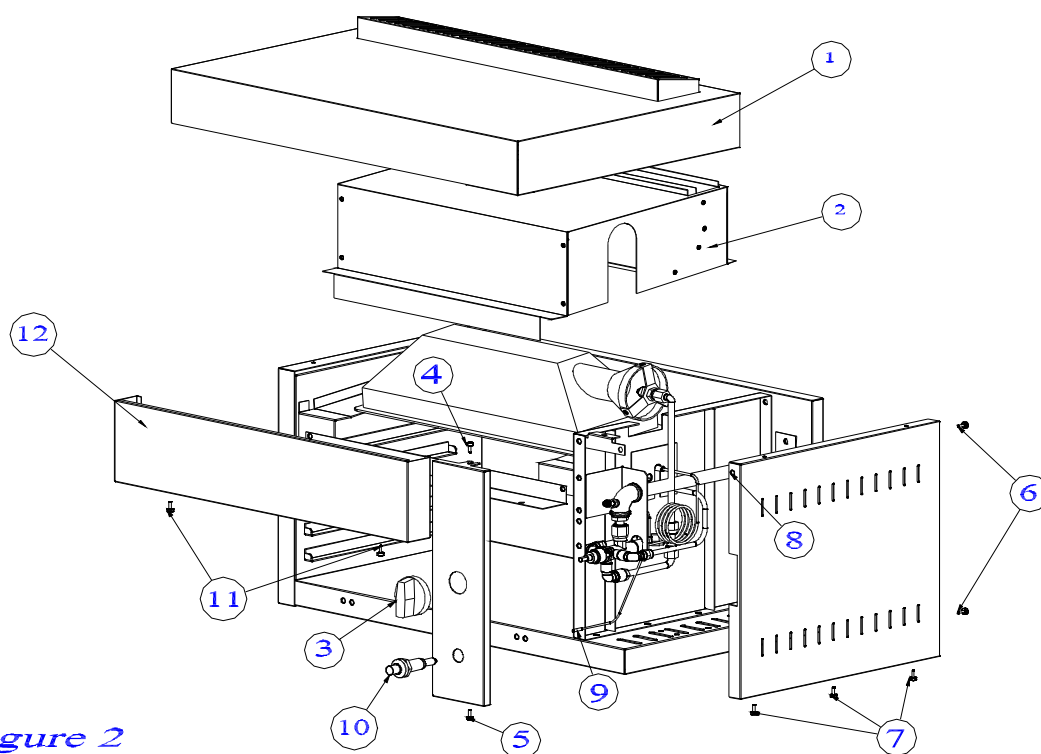

Figure 2
REMOVE/REPLACE (figure 2)
2. Unscrew the screws (figure 2, item 1) and remove upper fascia panel (13).